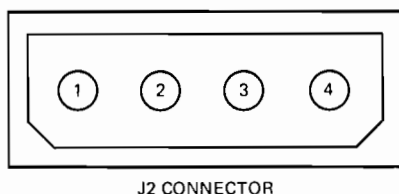

Figure 2-5. J2 Connector Outline
2.3.2.2 Power Connector. The DC power connector (J2) is mounted opposite to J1 on the component side of the PWB. Power connector J2 is a 4-pin AMP P/N 1-480426-0. The recommended mating connector for P2 is AMP P/N 1-480424-0 that uses AMP pins P/N 60619-1. The recommended wire size is No. 18 AWG. Figure 2-5 shows the pin-numbering sequence of J2. The +5V and +12V power returns are tied together and connected to the chassis at the disk drive. rive.